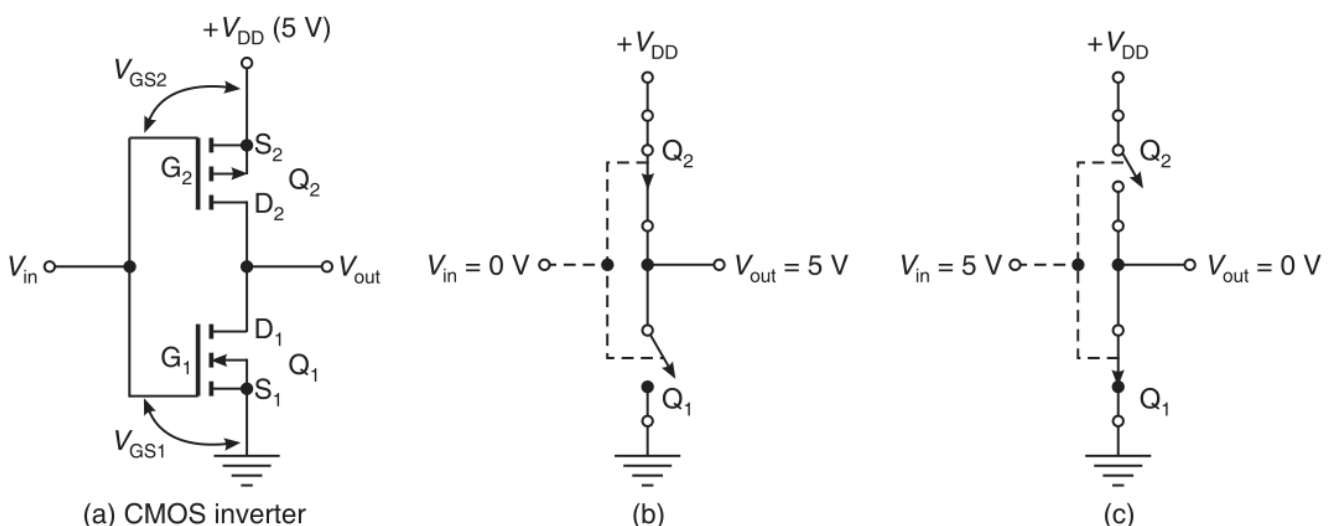

Figure 16.23 Circuit diagram and equivalent circuits for various inputs of the CMOS inverter.
Source: Kumar (Ch. 16, pp. 917–924, Figures 16.23, 16.24, 16.25)
1. The CMOS Inverter (Kumar, p. 921, Figure 16.23)